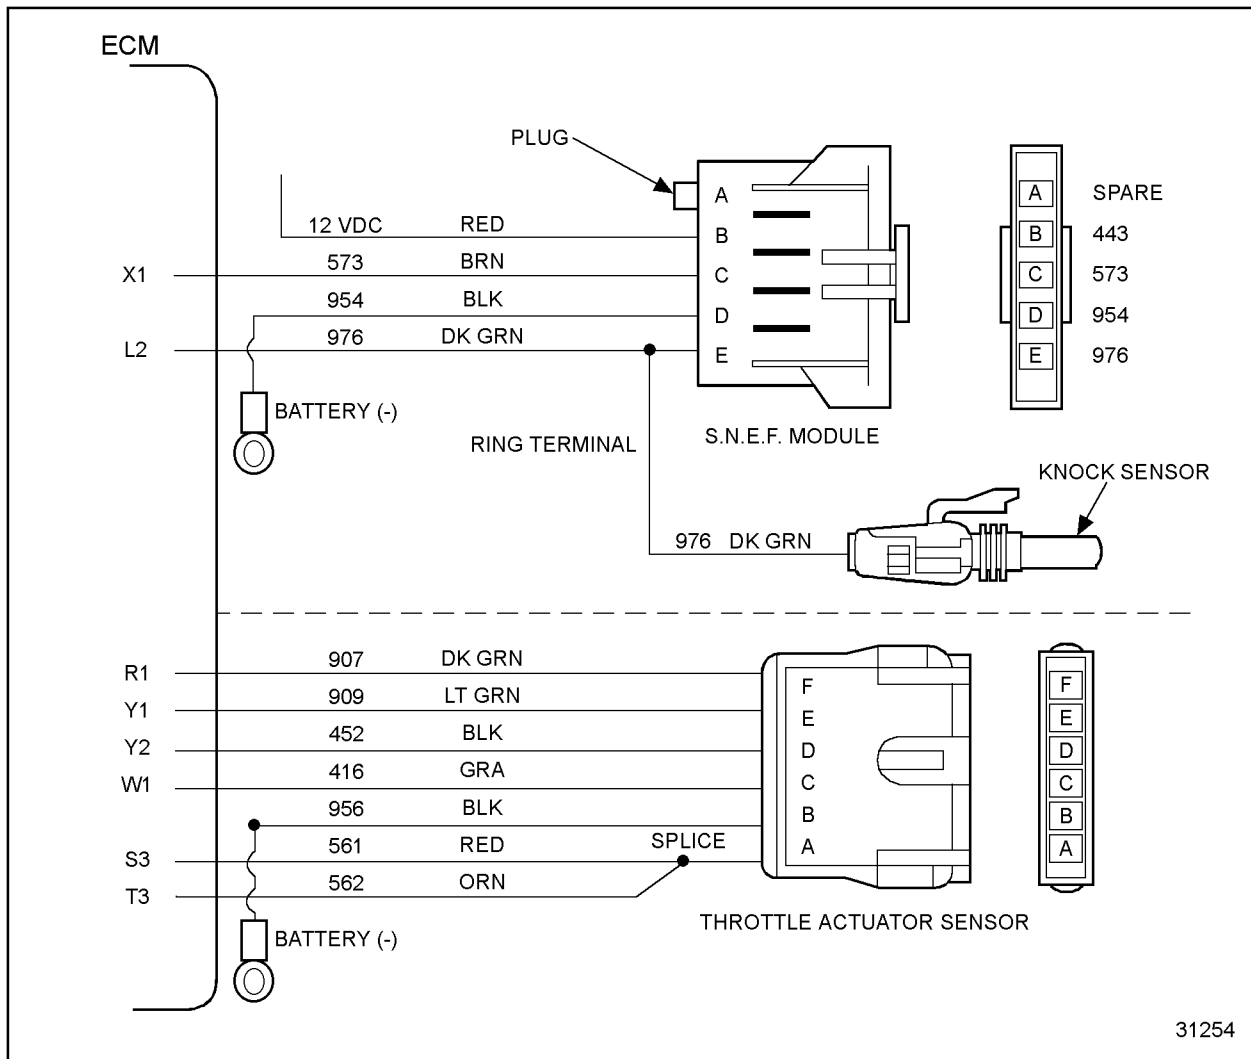

Figure 17-1 Gas Engine Sensor Harness
3. Measure resistance between W1 and R1. See Figure 17-1.